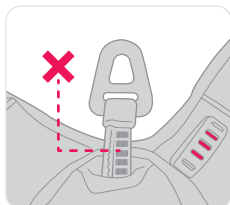

Figure 4
- Ensure that the descent line is not paid out of the device, this would indicate that a descent has occurred (Figure 4). If descent line is paid out the Latchways PRD shall be removed from service and advice sought from MSA or authorised agent.